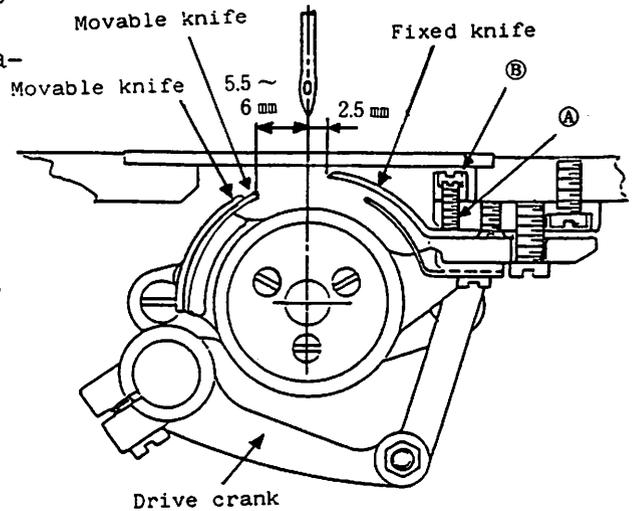

Fig. 11.10
The movable knife and the fixed knife should be located as shown in Fig. 11.10 (standard positions).
- ② If thread cannot be trimmed easily, increase knife engagement pressure.
- ③ To adjust knife engagement pressure, loosen the lock nut (B) shown in Fig. 11.10 and turn the adjusting screw (A).
(4) Installing the knife protector